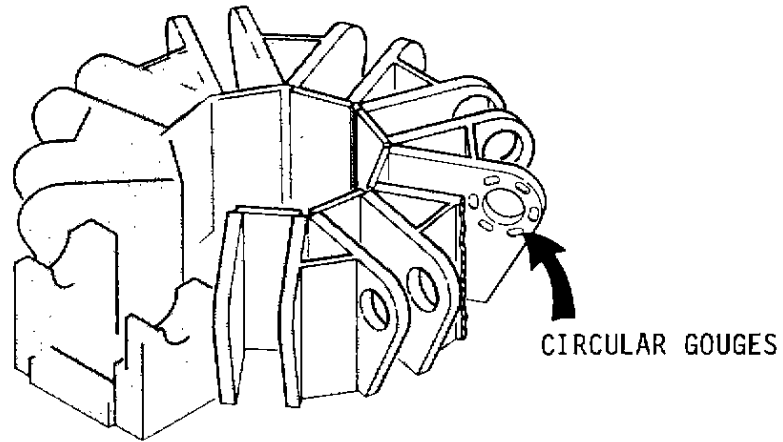

FIGURE 3
2. SPINDLE EARS - Inspect the inside surfaces of all spindle ears for circular gouges as shown in Figure 3.